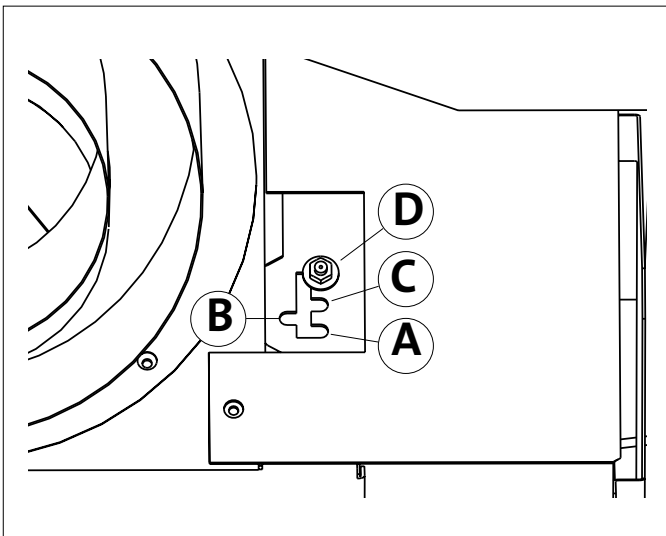

Figure 6. Exhaust restrictor positions - viewed from front with top plate removed.
3. Locate the pivot pin at the right side of the firebox top. Use a 7 mm or 9/32 nut driver to loosen the nut on the pivot pin and then push the pin to the left to disengage it from the current factory-set position. Move the pin forward and into the slot appropriate for your specific vent configuration. See figs. 6 and 7.